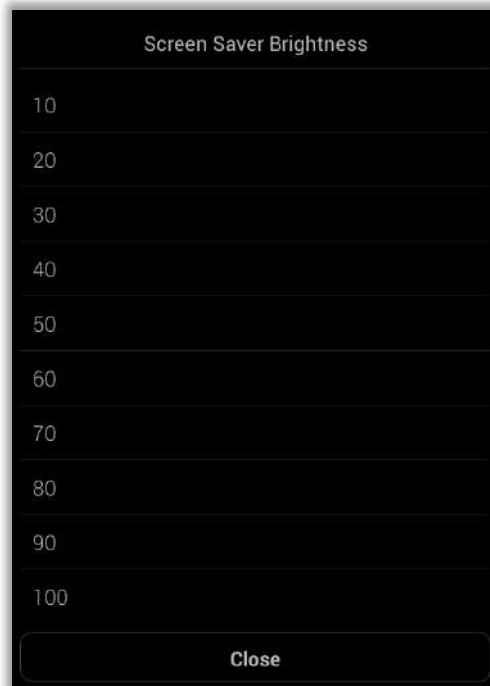

Fig. 70 : Screen Saver Brightness List
- 2 By pressing this touch button, the screen saver brightness per cent is set. After pressing the button, the screen saver brightness per cent list in Figure 70 is displayed.